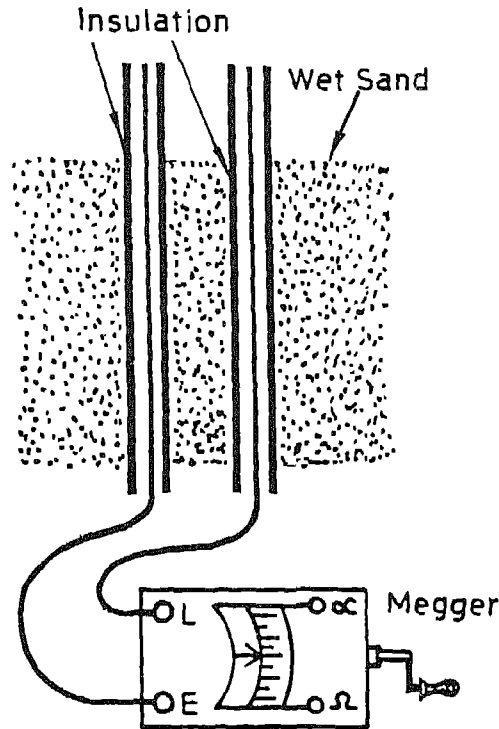

Fig. 13.2 Measurement of Insulation Resistance
- (iv) Connect L and E terminals of the megger to the pairs of long wires (insulated) dipped in wet sand as shown in Fig 13.2 Rotate the handle of the megger and observe the megger scale. The pointer will be steady on the scale according to the strength of the insulation. If it shows infinity the insulation is 'excellent', if it shows 'high megohms', it is good and if it shows below one megohm, it is 'poor' and needs replacement.